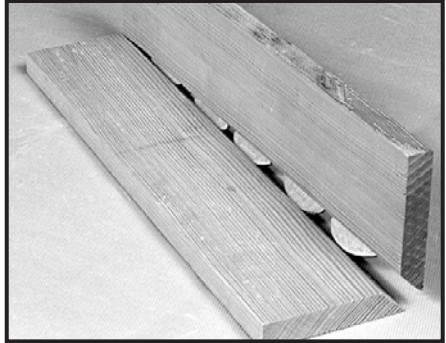

Fig. 29
**NOTE:** Assemble all joints and verify alignments before applying glue (see Fig. 29).